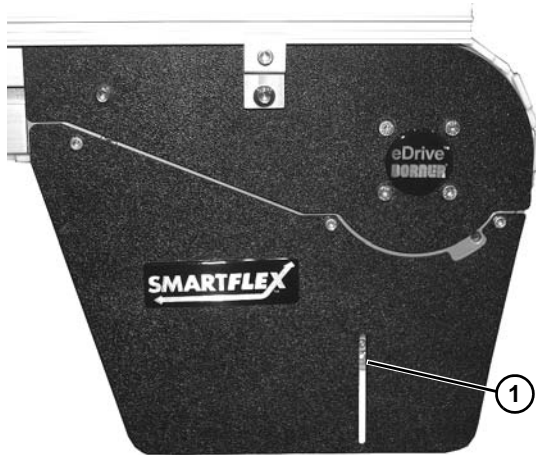

Figure 54
Before inserting belt rod to connect belt ends, be certain that the slack on belt is showing in slotted area (**Figure 54, item 1**) on convey or drive end.